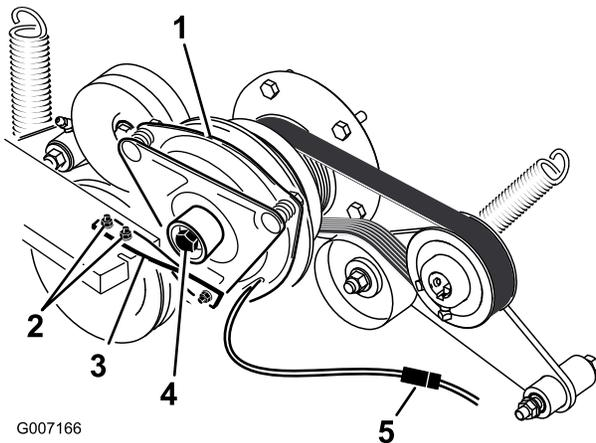

Figure 53
6. Unplug the electric connection for the clutch (Figure 53).
7. Remove the two bolts holding the rubber clutch strap to the mower frame (Figure 53).
8. Remove the center bolt holding the clutch to the engine shaft and remove the clutch and key (Figure 53).
15. While holding the crank shaft at the back of the machine, install the center bolt and torque it to 50 ft-lbs (68 N-m) (Figure 53).
16. Install the rubber clutch strap to the mower frame with the two previously removed bolts and nuts (Figure 53).
18. Plug in the electric connection for the clutch (Figure 53).